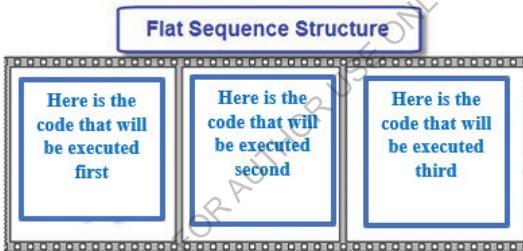

Figure 2.157: Flat Sequence Structure
**Frames** or **codes** are displayed next to each other, and the codes inside the frames are executed in order from **left to right**, as shown in figure 2.157.